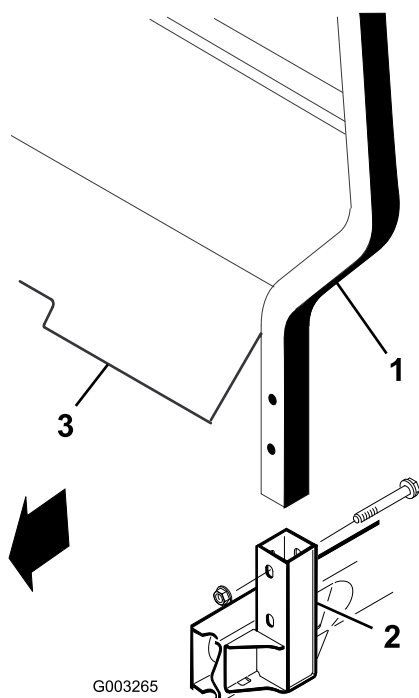

Figure 8
1. Insert each side of ROPS into mounting bracket on each side of vehicle frame, positioning ROPS as shown in Figure 8.